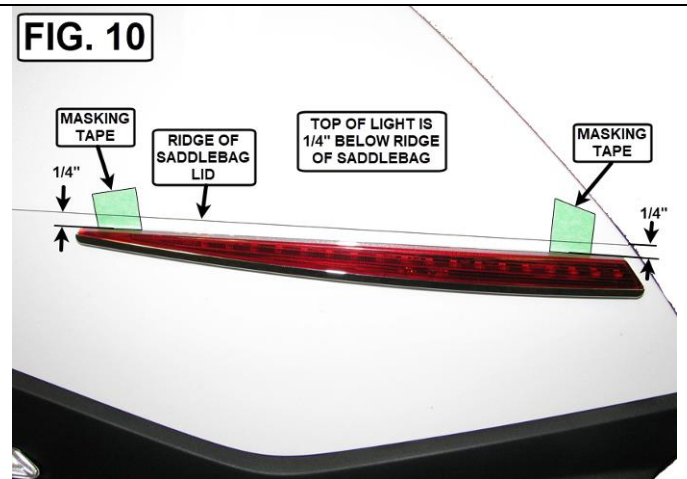

FIG. 11
17. SECURE THE WIRE CABLE WITH TAPE ALONG THE INSIDE OF THE SADDLEBAG LID ACCORDING TO FIG. 11.